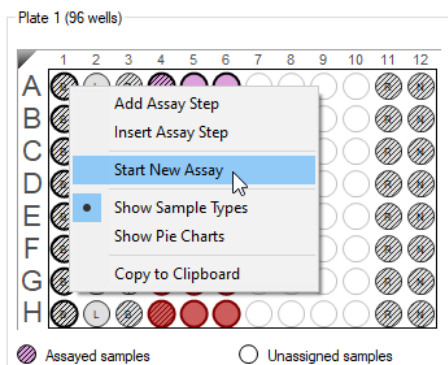

Figure 8-39: Start New Assay
2. Right-click to view the shortcut menu and select **Start New Assay** (see Figure 8-39).